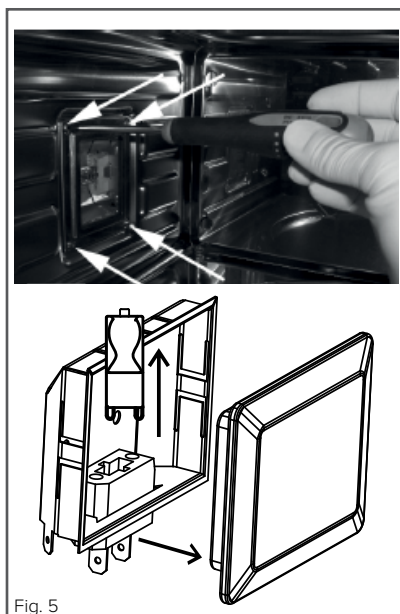

Fig. 5
- Wearing suitable hand protection, such as gloves, remove the screws around the protective glass cover (fig. 5). Carefully remove the cover. It is advisable to wash and dry the cover and store it somewhere safe where it won't cause nor receive
- Refit the protective cover, taking care not to pinch or crimp the cover gasket, and re-attach the four screws (fig. 5).